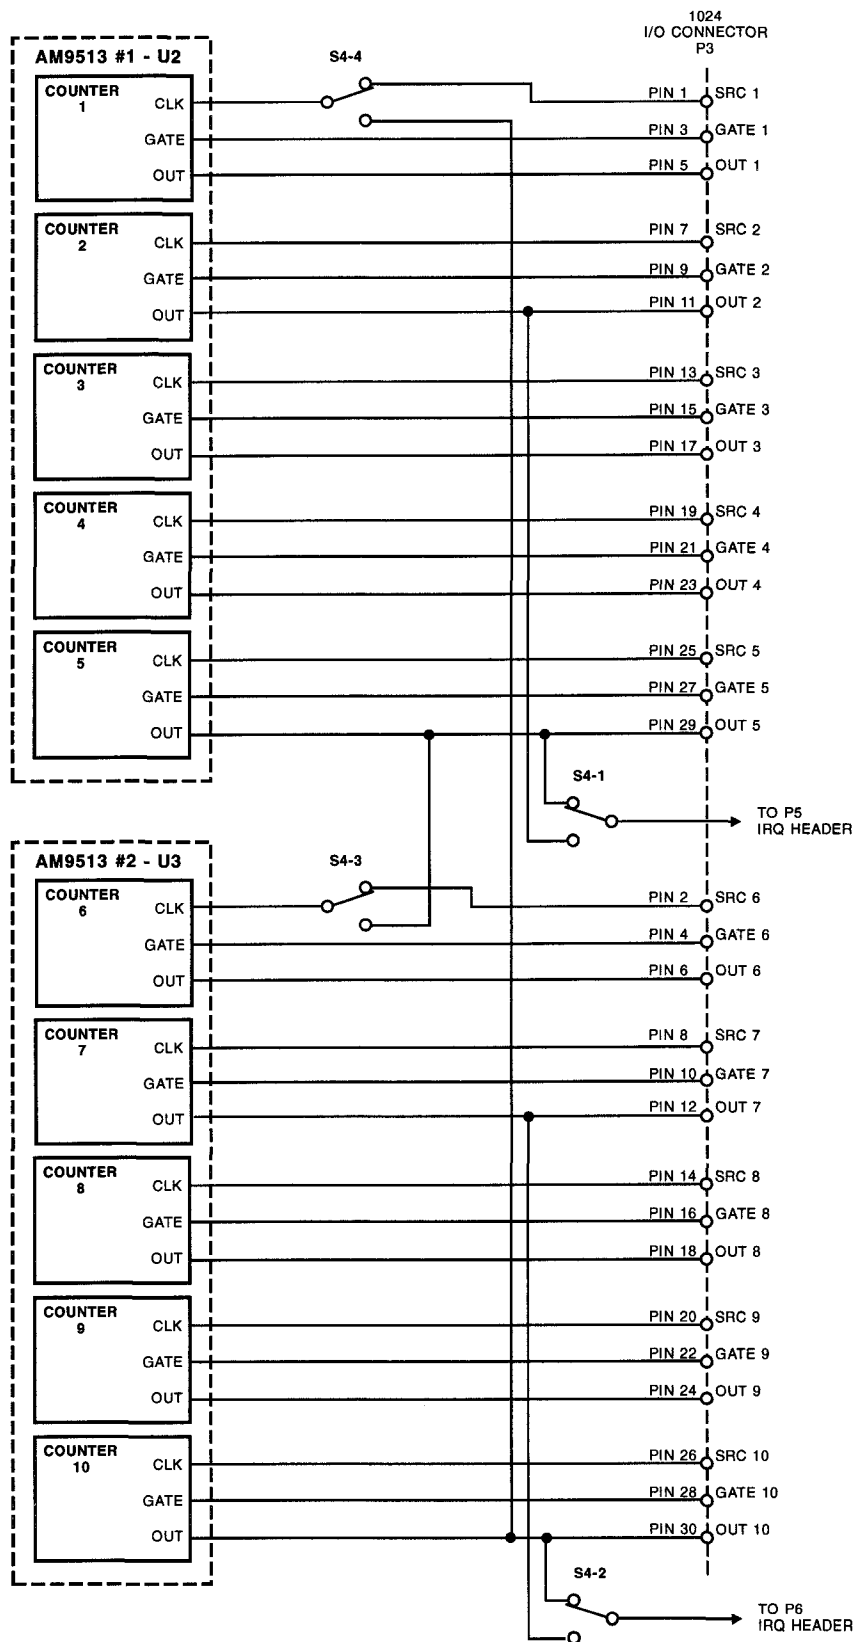

Fig. 1-9 — Counter Circuitry Showing S4 Switch Connections
**S4-1.** This switch provides the output of counter 5 or the output of counter 2 as the available interrupt source at P5. The factory setting is OUT5. Figure 1-9 shows how this switch is connected.
**S4-2.** This switch provides the output of counter 10 or the output of counter 7 as the available interrupt source at P6. The factory setting is OUT10. Figure 1-9 shows how this switch is connected.
**S4-3.** This switch controls the clock source for counter 6. The source can be provided externally from the P3 I/O connector, or it can be provided from the output of counter 5, cascading counter 6 to counter 5. The factory setting is external, EXT6 (SRC 6 at the I/O connector). Figure 1-9 shows how this switch is connected.
**S4-4.** This switch controls the clock source for counter 1. The source can be provided externally from the P3 I/O connector, or it can be provided from the output of counter 10, looping counter 10's output back around to counter 1. The factory setting is external, EXT1 (SRC 1 at the I/O connector). Figure 1-9 shows how this switch is connected.